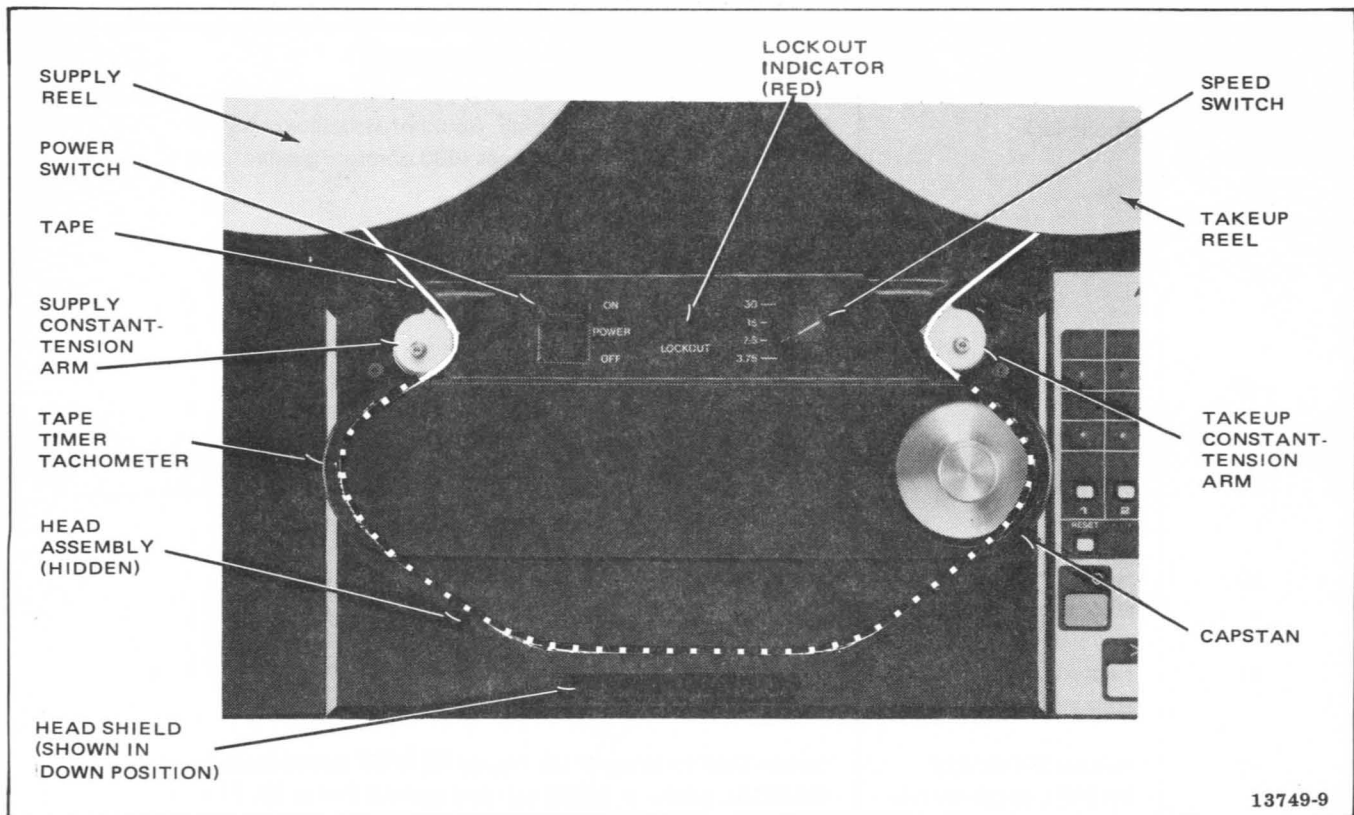

Figure 3-1. Tape Threading Path
See Figure 3-1 and perform the following preoperational procedure.
Figure 3-1. Reels up to 14 inches (35.56 cm) in diameter and in any size combination may be used. (Note: If reels larger than 11-1/2 inches (29.21 cm) are used, reel motors must be in the "outer" position. Refer to paragraph 2-22).
6. Thread tape on transport as shown in Figure 3-1. The tape path is from the supply reel, around the inside of the supply constant-tension arm, around the tape timer wheel, across the head assembly, around the capstan, around the inside of the takeup constant-tension arm, and onto the takeup reel.